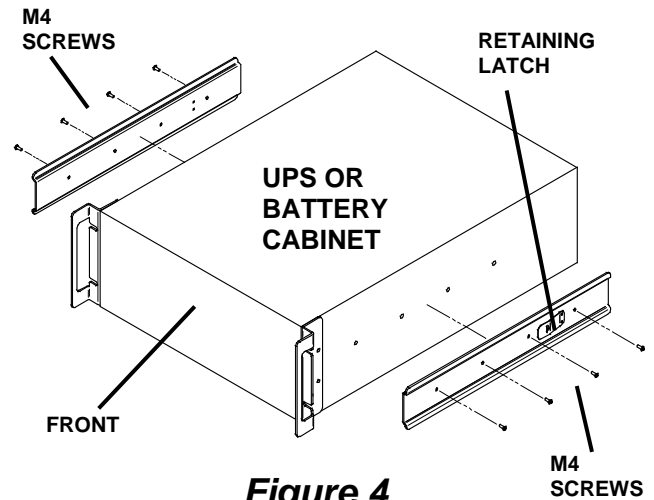

Figure 4
4. Prepare the UPS or Battery Cabinet (the "equipment") for rack mounting by following instructions in the equipment's user manual. The equipment may require additional parts to be added or parts to be removed for rack mounting. After it is prepared, lay equipment in rack-mounting position. Fasten Inner Members from Step 1 to the equipment on both sides as shown in Figure 4 with (8) M4 Screws provided in this kit. Make sure Retaining Latch is near the rear of the equipment as shown (See Figure 4).